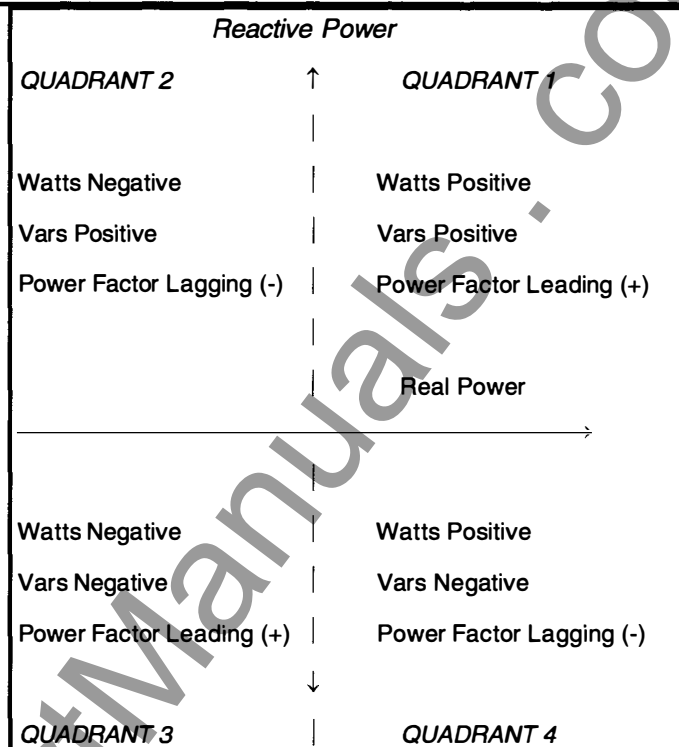

Figure 3.2 Power Quadrants, Mathematical
- Watts, Vars and/or Power Factor. The selected LEDs blink when viewing reverse power flow, lagging (negative) Power Factor, and negative Vars. The LEDs do not blink if the values are positive (leading). Refer to Figures 3.2, 3.3, 3.4 and 3.5 for further explanation.
- Induction Motor Loads. Typically when monitoring induction motor loads the power flow is in Quadrant 4. The Watts are positive and the Power Factor is lagging. By definition, the Power Factor and Vars are negative and the LEDs will blink for these two values. Refer to Figure 3.2.